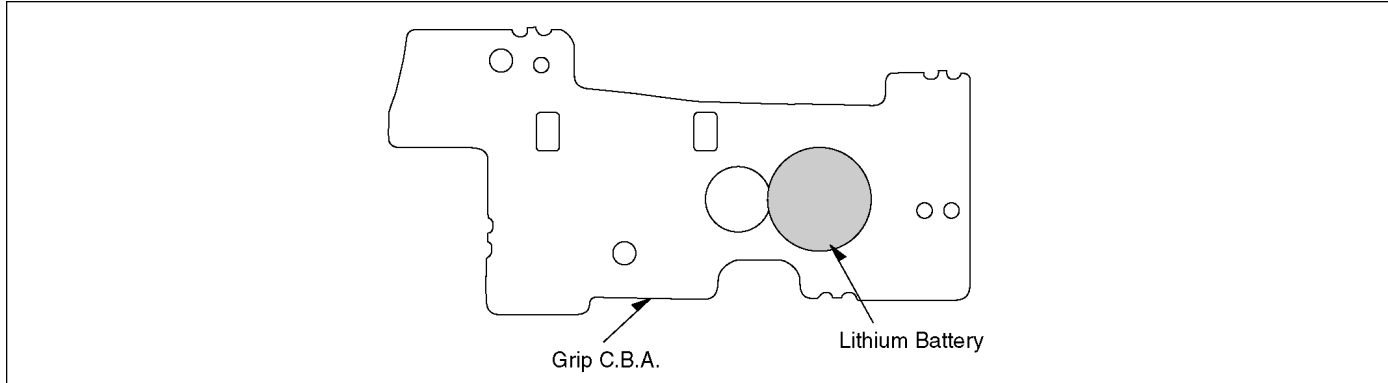

Fig. B1
1. Remove the Grip C.B.A. from Side Case (L). (Refer to Disassembly Procedures.)
2. Unsolder the Lithium Battery "VSB0407" and then replace the new one. (See Fig. B1.)